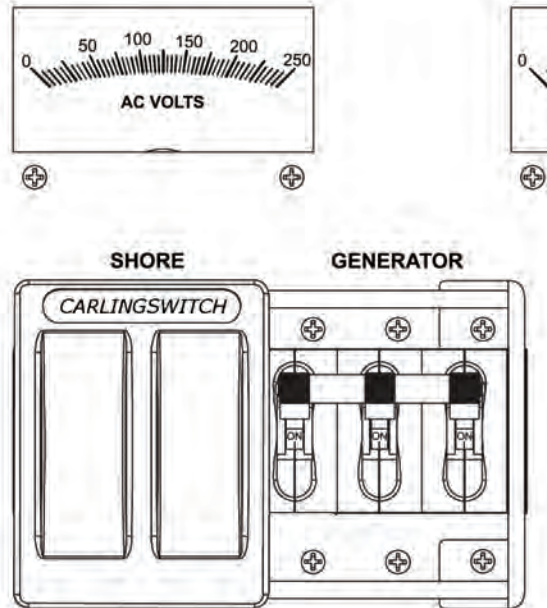

Figure H27: Generator Main Breakers - ON
- Turn the generator's main circuit breakers switches to the ON position. See Figure H27.